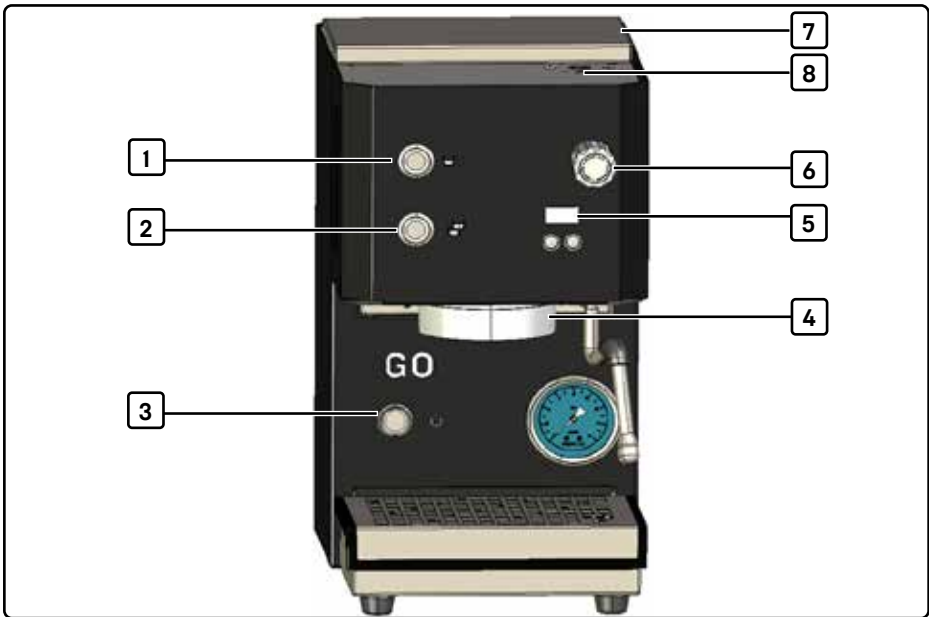

Fig. 5 Figure without portafilter installed
1. Remove the water tank [7, Fig. 5] and clean it thoroughly (see Chapter 11.5, "Cleaning the water tank").
4. Press the on/off button [3, Fig. 5].
1. Place a receptacle under the brew group [4, Fig. 5]. The opening of the receptacle should be at least as big as the brew group.
2. Press one of the brew buttons [1, 2 Fig. 5].